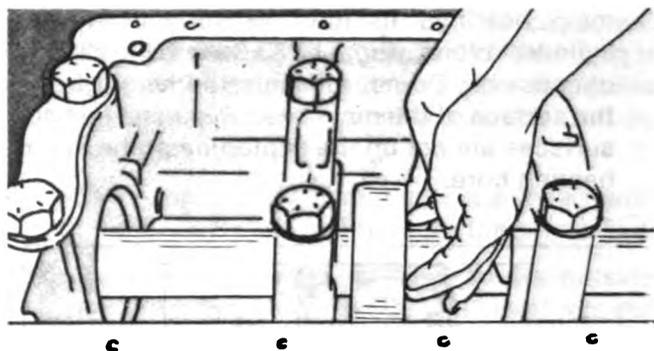

Fig. 1-38. Push The Checking Ring Through The Bore.
- e. Apply lubrication to the outside diameter of the checking ring. Use the pressure of your fingers to push the checking ring through the bores, Fig. 1-38. As you push the ring through the bores, rotate the bar. If the checking ring will not pass through the bores, check the bores for rough edges.